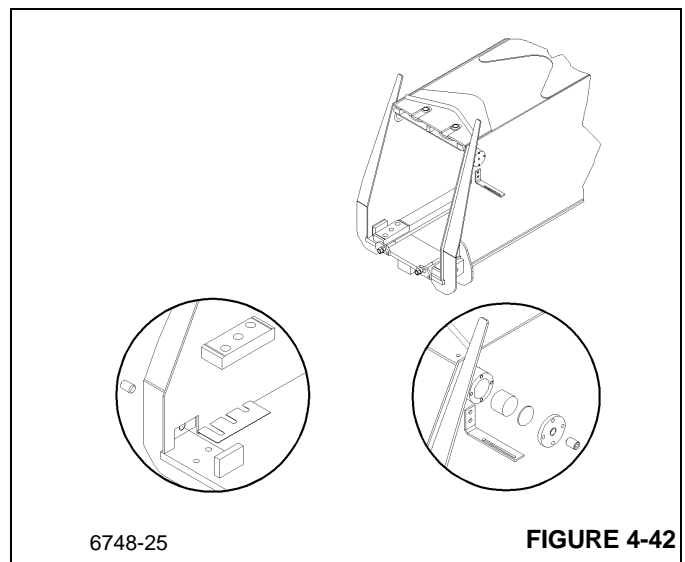

FIGURE 4-42
2. Install the lower brass wear pads. Back out the adjustment set screw so the pad seats fully into the pocket. The pad should extend no more than 1/8 of an inch into the boom section for the initial installation. (Figure 4-42)